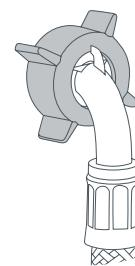

Fig.5 Washer end of
- 2 Install elbow ends onto clothes washer (inlet valves are marked on the back of the washer H=hot, C=cold) (refer to Fig.5). Ensure the hot valve is connected to the hot faucet and the cold valve is connected to the cold faucet.